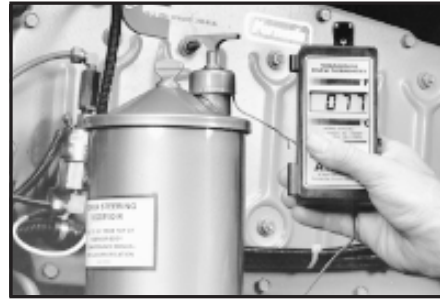
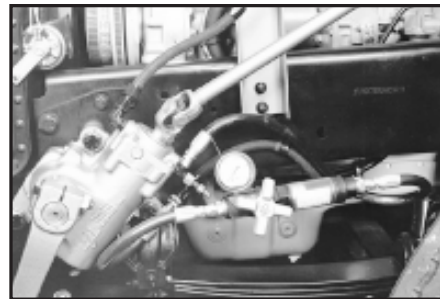

Figure 5.1
Figure 5.2
1. Install temperature gauge in reservoir. *Figure 5.1.* Install PSSA in pressure line with shut-off valve fully open. *Figure 5.2.*
1. Install temperature gauge in reservoir. *Figure 5.1*. Install PSSA in pressure line with shut-off valve fully open. *Figure 5.2*. Park the vehicle outside. Record ambient temperature. Run the engine at governed RPM for 40 minutes to bring the fluid up to an elevated testing temperature. Measure and record the fluid temperature at the start and at 10, 20, 30 and 40 minutes. Do not allow the temperature to exceed 250° F (121° C).